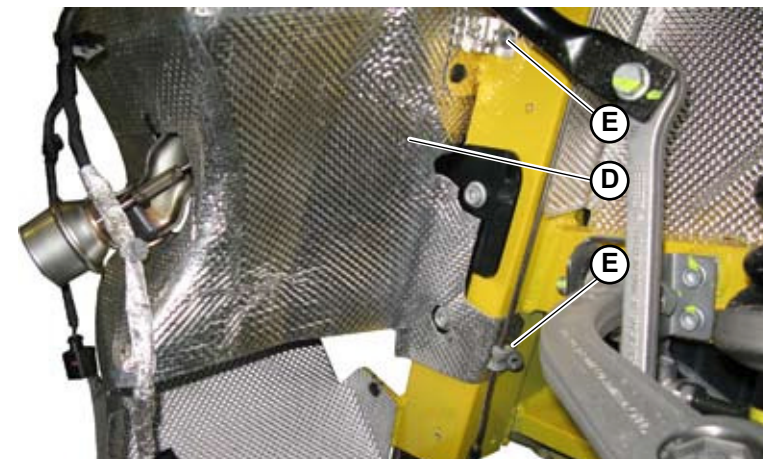

Fig.6
4. Secure the heat-proof panel (**D-Fig.6**) to the chassis by tightening the 2 screws (**E-Fig.6**).